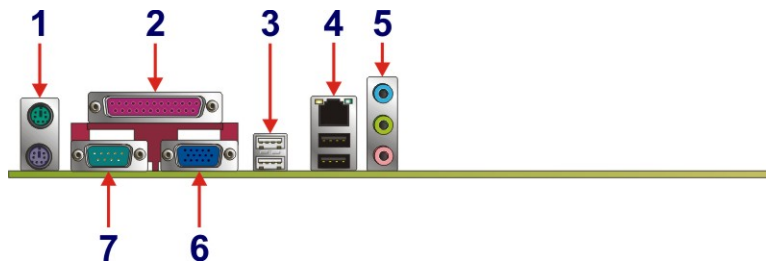

Figure 4-22: 2807740 External Interface Connectors
CN Location:	See Figure 4-22 (labeled number 1)
CN Location: See Figure 4-22 (labeled number 2)
- CN Location: See Figure 4-22 (labeled 3 and 4)
CN Location: See Figure 4-22 (labeled 4)
CN Location: See Figure 4-22 (labeled number 5)
- CN Location: See Figure 4-22 (labeled 6)